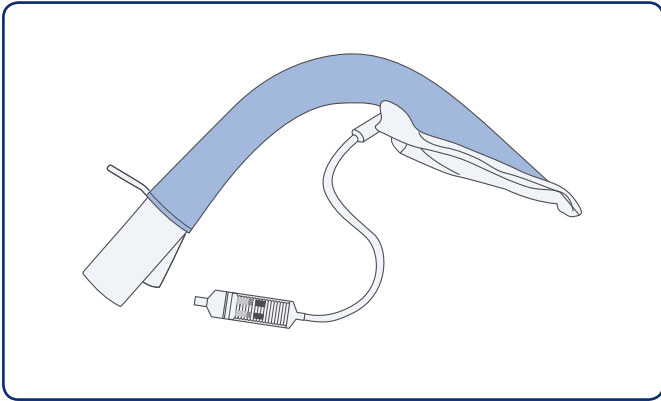

Figure 6: After achieving wedge shape cuff during deflation, disconnect the syringe from the inflation line
4. Keep the syringe under tension whilst rapidly disconnecting it from the inflation port. This will ensure that the mask remains correctly deflated, as shown in Figure 6.